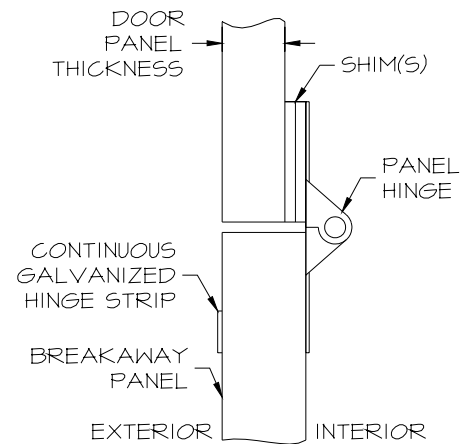

FIG. 4B
- \* If **Breakaway Panel is thicker than door**, shim the top half of the Panel Hinge (Figure 4b).